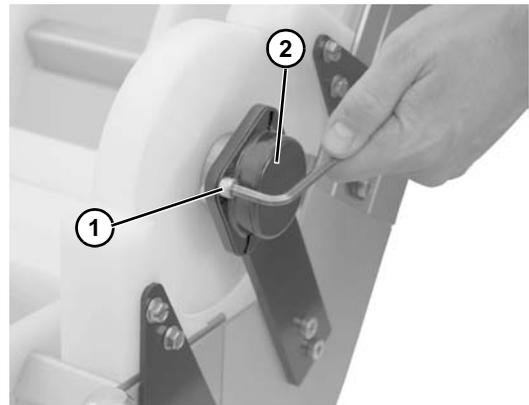

Figure 82
3. Remove two socket head screws (Figure 82, item 1) and remove shaft cover (Figure 82, item 2). Repeat on opposite side.